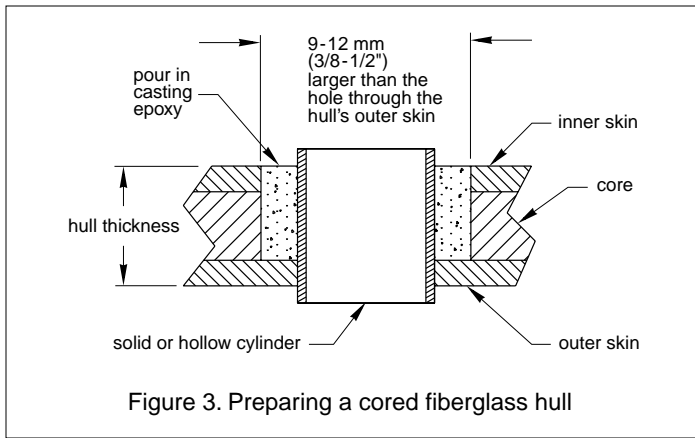

Figure 3. Preparing a cored fiberglass hull
1. Drill a 3 mm or 1/8" pilot hole from inside the hull (see Figure 3). If there is a rib, strut, or other hull irregularity near the selected mounting location, drill from the outside. If the hole is drilled in the wrong location, drill a second hole in a better location. Apply masking tape to the outside of the hull over the incorrect hole and fill it with epoxy.
Alternatively, a hollow or solid cylinder of the correct diameter can be coated with wax and taped in place. Fill the gap between the cylinder and hull with casting epoxy. After the epoxy has set, remove the cylinder (see Figure 3).